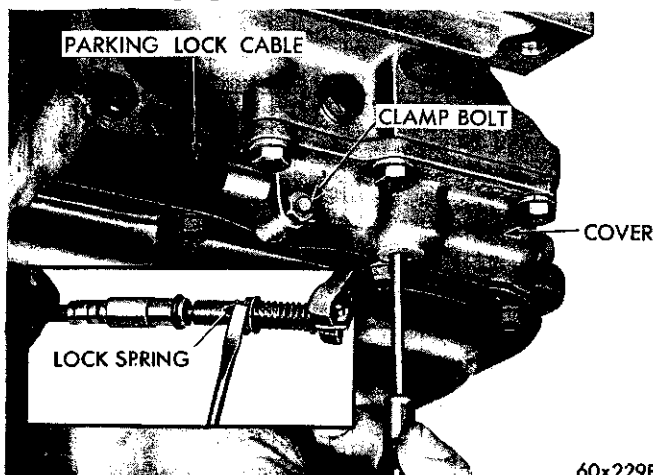

Fig. 18—Removing Parking Lock Cable
(1) Loosen the parking lock cable clamp bolt where the cable enters the housing cover (Fig. 18). Tap the end of the clamp bolt tightly to release its hold on the cable. Remove the housing cover lower plug.
(2) With a screw driver inserted through the plug opening, push gently against projecting portion of the cable lock-spring, then withdraw the lock cable. **Do not use pliers or similar tool to withdraw cable from adapter cover as the cable cover might be damaged causing an oil leak.**